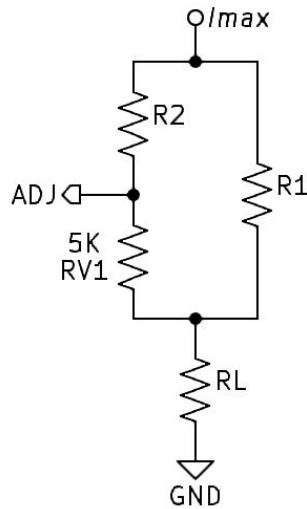

Figure 13a.6: LM317 I_{max} Circuit Redraw
- The LM317 I_{max} circuit redraw Figure 13a.6. shows RV1 in the extreme position where pins 1 and 2 are connected.